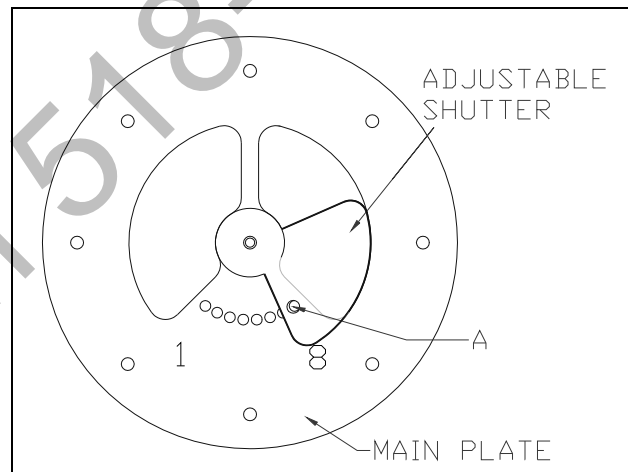

Figure 11: Restriction Plate Adjustments
The restriction plate is used to control the draft of the heater. Controlling the draft also changes the aesthetics of the flame. The restriction plate has eight settings, one (1) being the lowest and eight (8) being the highest. For a fast moving flame with lots of action, use a low setting. For a slow, lazy flame, a high setting should be used. See *Figure 11* for instructions on how to adjust the restriction plate settings.
Remove the log set before adjusting the restriction plate by following the log set removal instructions on page 25. Make sure the unit is cool before touching any part of the firebox and log set. Remove the exhaust baffle by removing the one screw in the center of the baffle (refer to *Figure 8*). The baffle will come out once the screw is removed. *Be careful not to drop the baffle on the pan burner.* Once the baffle is set aside, check the restriction plate screw location. There are eight locations that the restriction plate can be positioned. (Refer to Venting Configuration – *Figures 14 – 16* for recommended restriction plate positions) (Refer to *Figure 11* for proper adjustment plate index location) 'A' in *Figure 11* shows the locating screw that determines the position of the plate.